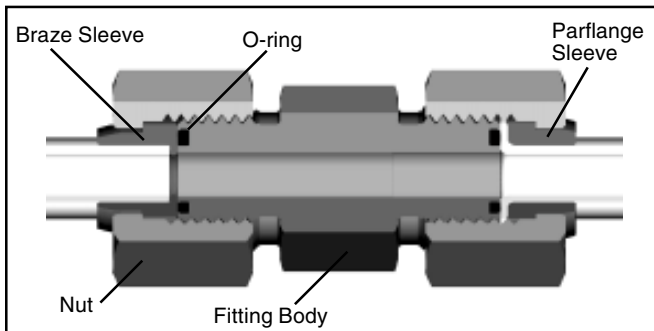

Fig. B1 — Seal-Lok Union cutaway with flanged and brazed assemblies
The Seal-Lok fitting is an O-ring face seal type fitting that consists of a nut, a body, an O-ring and a sleeve. As shown in Fig. B1, the tube is flanged to 90° (or the tube may be brazed instead to a braze-type sleeve). When the fitting is assembled, it compresses an O-ring in the precision machined groove in the fitting body to form a leak tight seal.
**The Seal-Lok Braze Sleeve.** There are two main differences between braze and flange sleeves. The first is that the braze sleeve provides the mating surface between the tube and the fitting body. With a flange connection, the sleeve provides support for the tubing which mates with the fitting body (see Fig. B1). The second difference between braze and flange sleeves is the method of attachment to the tube. The braze sleeve, as the name implies, is attached to the tube through brazing. The braze provides holding power as well as a method to seal the joint.
The Seal-Lok fitting body face contains a high durometer O-ring that is held captive in a precision machined groove. As the nut is tightened onto the fitting body, the O-ring is compressed between the body and flat face of the tube flange or braze sleeve to form a tight, positive seal (see Fig. B1).